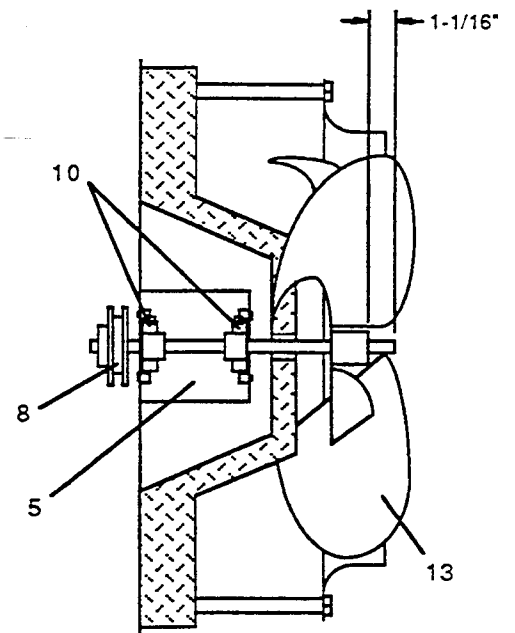

Figure 84
14. Apply anti-seize compound on fan shaft before installing fan blade (Item 13). Position fan blade per dimension shown in Figure 84.